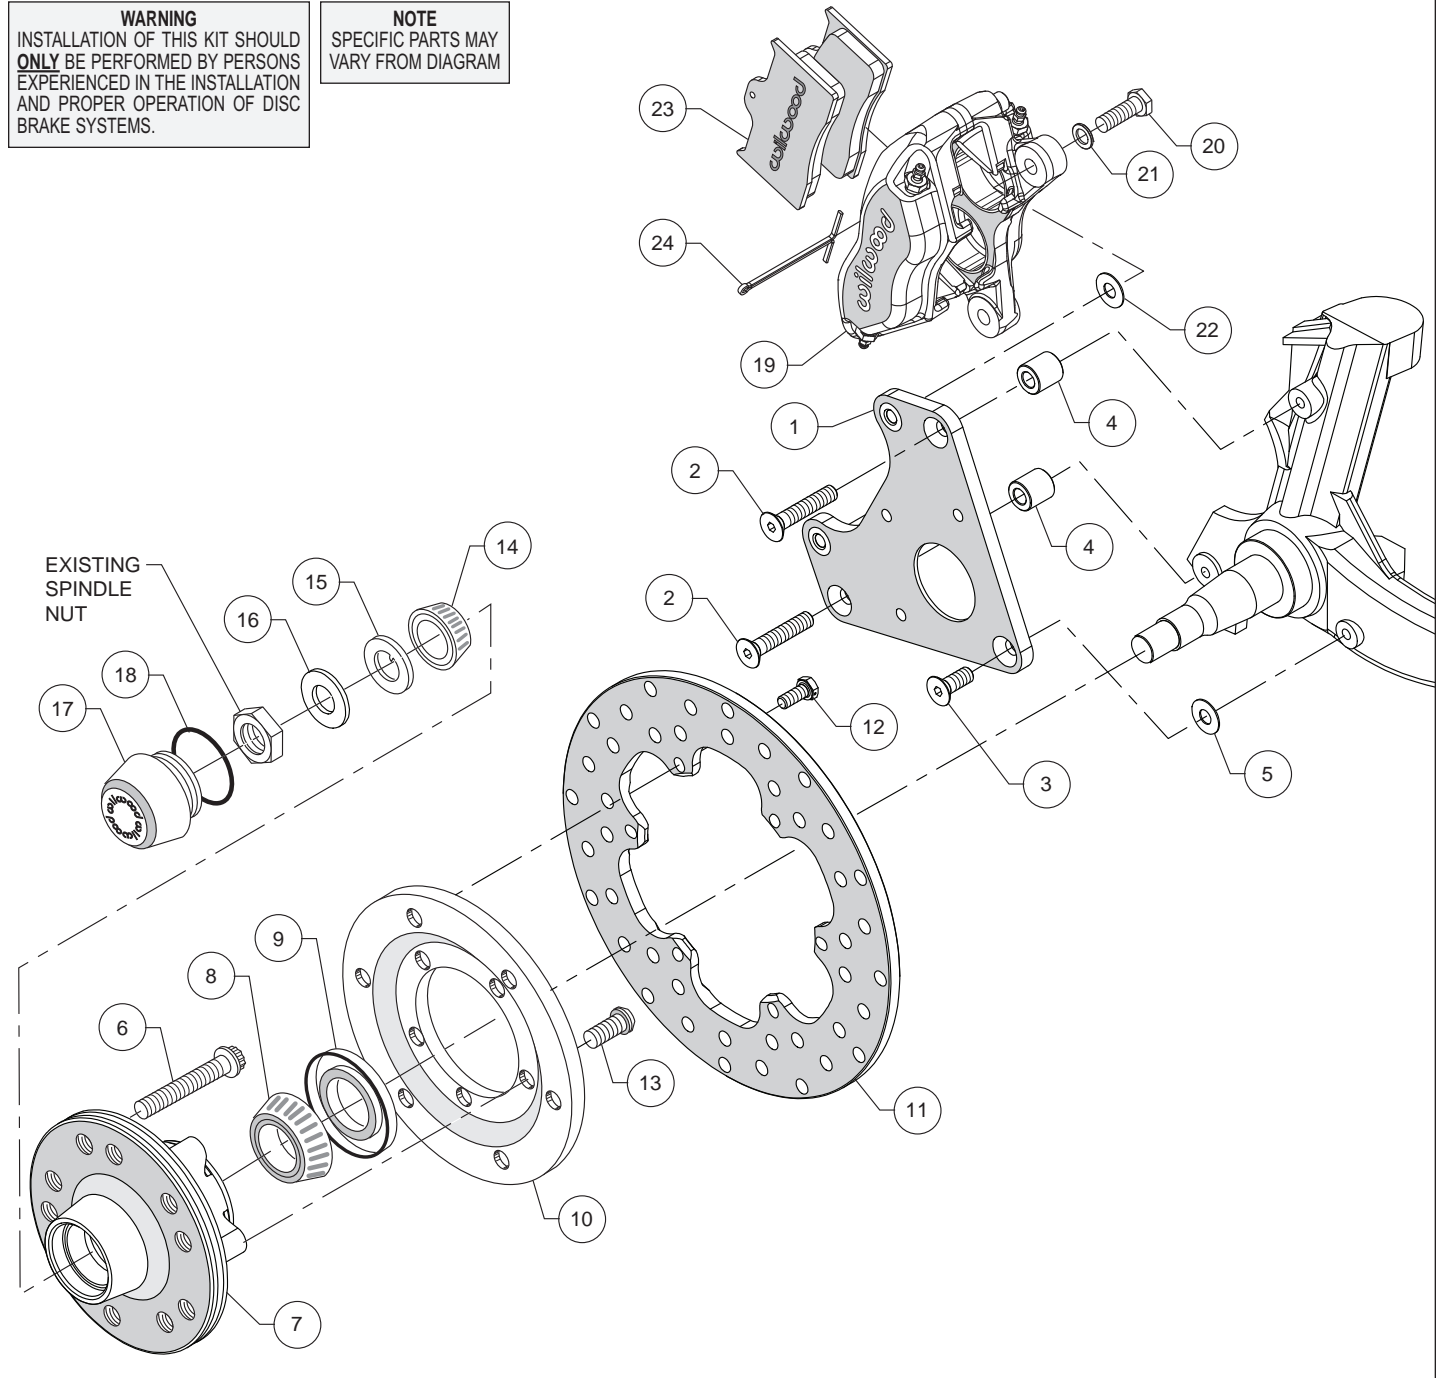
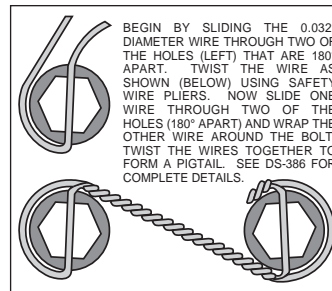
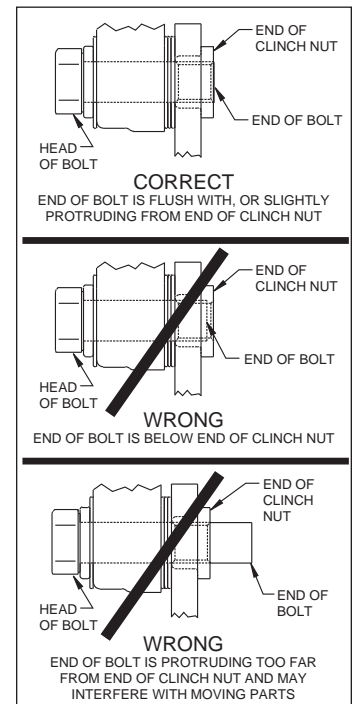

Figure 2. Typical Installation Configuration
Figure 4. Safety Wire Diagram
Figure 5. Clinch Nut Engagement Diagram
Assembly Instructions (numbers in parenthesis refer to the parts list, on the preceding page and Figure 2): **CAUTION:** All mounting bolts must fully engage clinch nuts. Be sure to check that all bolts are either flush or protruding through flanged side of clinch nut after shimming, Figure 5.
- Orient the caliper mounting bracket (1) as shown in Figure 2 and Photo 1. Attach using bolts (2), bolt (3), spacers (4) and washer (5), Figure 2. Temporarily tighten the mounting bolts. Ensure that the flanged heads of the clinch nuts in the bracket are facing outboard, Photo 1. **NOTE:** The bracket must fit squarely against the mounting points on the spindle. Inspect for interference from casting irregularities, machining ridges, burrs, etc. Remove bolts one at a time, apply red *Loctite*® 271 to threads and torque bolts (2 and 3) to 30 ft-lbs.
- Install wheel studs (6) into the hub (7), Photo 2. Torque to 77 ft-lb. **NOTE:** There are two five lug patterns in the hub (5 x 4.50 and 5 x 4.75). Ensure the correct hub stud pattern is being used to fit the wheel application.
- Pack the large inner bearing cone (8) with high temperature disc brake bearing grease (available from your local auto parts store) and install into the backside of the hub (7), Photo 3.
- Install the grease seal (9) by pressing into the backside of the hub (7), flush with the end of the hub, Photo 3.
- Orient the rotor (11) and the rotor adapter (10) as shown in Figure 2 and Photo 4. Attach the rotor to the adapter using bolts (12). Using an alternating sequence, apply red *Loctite*® 271 to the threads, and torque to 25 ft-lbs.. Safety wire bolts using standard 0.032 inch diameter stainless steel safety wire as shown in Figure 4. Refer to Wilwood's data sheet DS-386
- Mount the adapter/rotor assembly (10 and 11) to the hub (7) using bolts (13), as shown in Figure 2 and Photo 5. Using an alternating sequence, apply red *Loctite*® 271 to the threads, and torque to 45 ft-lb.
- Pack the small outer bearing cone (14) with high temperature disc brake bearing grease and install into hub (7). Slide the hub/rotor assembly onto the spindle. Secure using spindle washer (15) and OEM spindle nut, Photo 6. **NOTE:** Because of a tolerance variation among spindles, it may be necessary to install one or two shim washers (16) between the spindle washer (15) and the spindle nut if the spindle nut will not tighten down all the way. Adjust bearing per OEM specifications. Install saved OEM nut lock (if any) and a new cotter pin (not included).
- Screw dust cap (17) into hub (7), Photo 7. Friction created by the o-ring (18) on the dust cap keeps it from unscrewing. **NOTE:** The O.D. of the existing OEM spindle washer may be larger than the I.D. of the dust cap not allowing it to seat against the hub face. Therefore, use the spindle washer (15) supplied with the kit instead of the OEM washer.
- NOTE:** Please reference the caution statement at the beginning of the assembly instructions. Mount the caliper (19) onto the caliper mounting bracket (1) using bolts (20) and washers (21), as shown in Figure 2. Initially place one .035" thick shim (22) on each bolt between the caliper and the bracket, Photo 8. Temporarily tighten the mounting bolts and view the rotor (11) through the top opening of the caliper. The rotor should be centered in the caliper, Photo 9. If not, adjust by adding or subtracting shims (22) between the bracket and the caliper. Always use the same amount of shims on each of the two mounting bolts. **NOTE:** The end of each bolt must be flush with or slightly protruding from the head of the clinch nut, as shown in Figure 5. If necessary place spare shims (22) between washer (21) and caliper mounting ear to achieve the proper clinch nut engagement. Once the caliper alignment and clinch nut engagement are correct, remove the bolts one at a time, apply red *Loctite*® 271 to bolt threads, and torque to 40 ft-lb. For an added measure of security, the bolts may be safety wired using standard 0.032 inch diameter stainless steel safety wire as shown in Figure 4. Refer to Wilwood's data sheet DS-386 (available at www.wilwood.com/Pdf/DataSheets/ds386.pdf) for complete safety wire installation instructions.
- Install the disc brake pads (23) into the caliper, with the friction material facing the rotor (11), Photo 10, and secure in place using cotter pin (24), Photo 11.